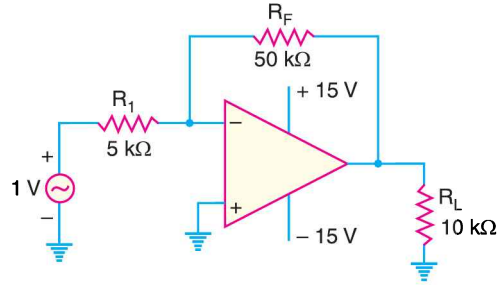

Fig. 25.101
7. For the circuit shown in Fig. 25.101, find (i) closed-loop voltage gain (ii) the instantaneous voltage across R_F when the signal voltage is $+1V$ (iii) the instantaneous voltage on the $-$ terminal when the signal voltage is $+1V$.